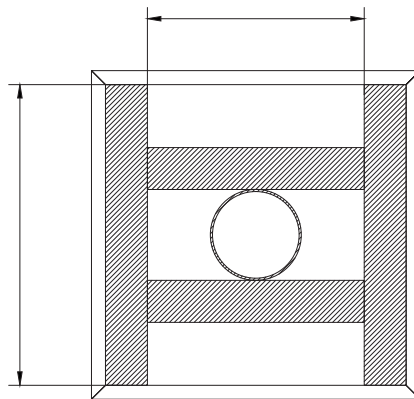

Fig. 11
Step 1 - Measure the inside of the Column Wrap and cut the wood blocks to size. (Fig. 11)